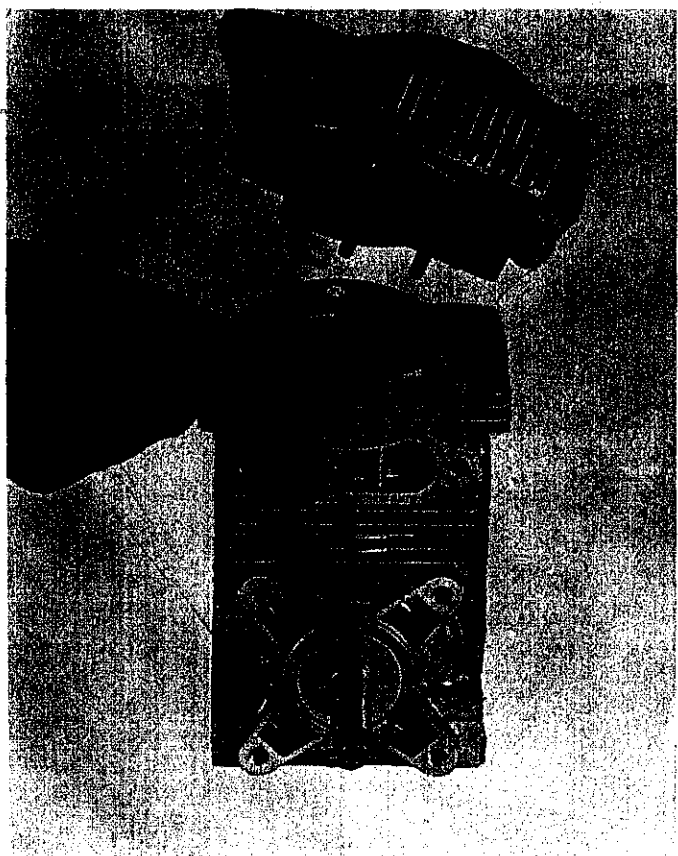

FIGURE 6. REMOVING CYLINDER
8. Remove cylinder head and gasket as shown in Fig. 6. When reinstalling, refer to the table in the General Specifications section at the beginning of this manual, for the correct thickness of head gasket for the model being worked on.